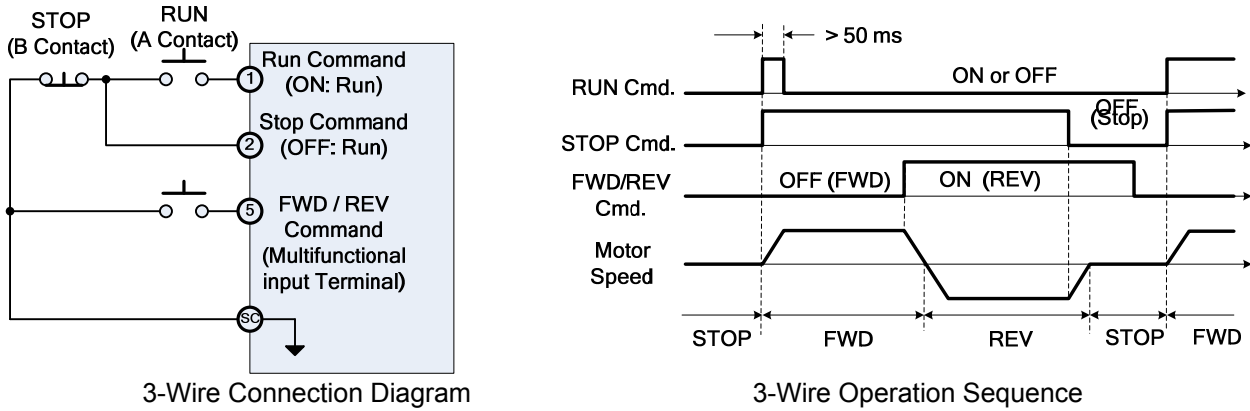

Fig. 9.2.3.10 3-Wire Operation (Sn-28=00)
When parameter Sn-03 = 8,10 or 12, 3-wire initialization mode, the multi-function input terminals ⑤-⑧ will be set for 3-wire operation. As shown in Fig.9.2.3.10, the Forward / Reverse control mode is set at terminal ⑤.